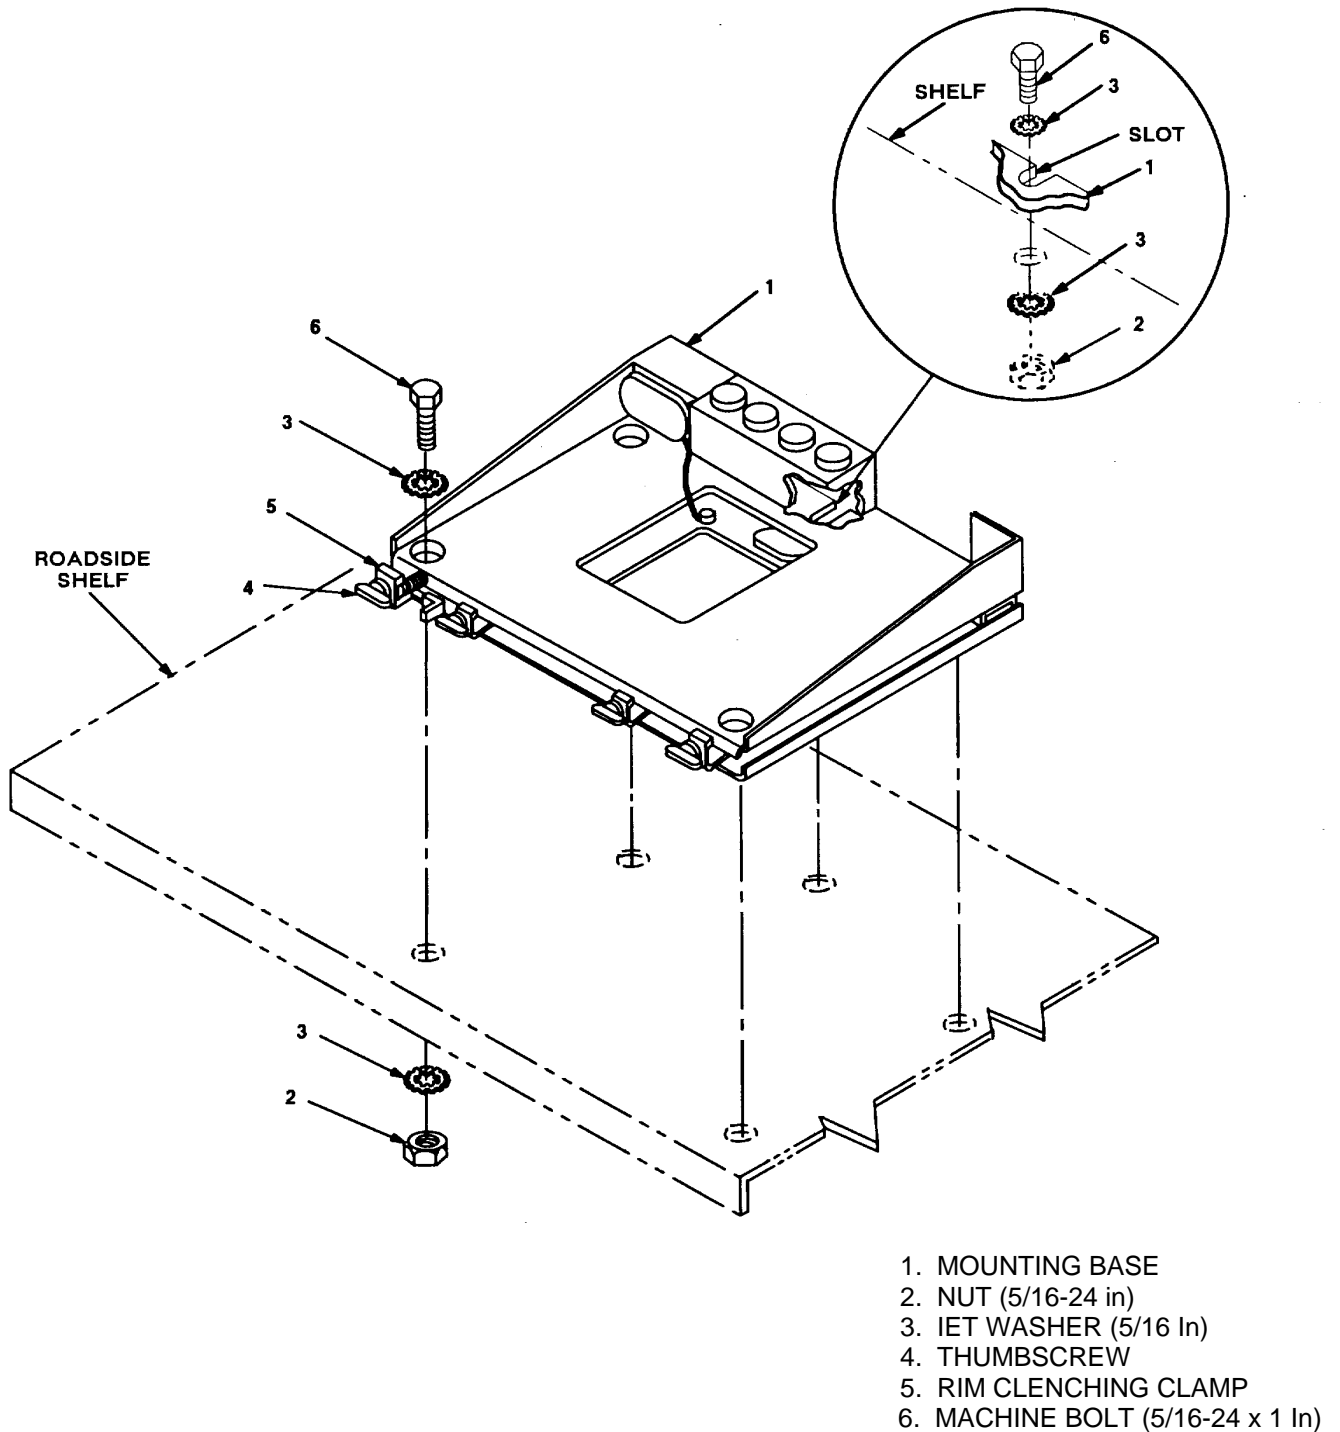

Figure 5-5. Mounting Base Installation: Roadside Shelf 13
**5.3 Installation of Mounting Base, Electrical Equipment MT-63521VRC (mounting base).** Remove and retain attaching bag of 5/16 in mounting hardware for installation. To insure good electrical grounding, any rust, corrosion or paint around mounting holes in radio shelf should be removed before installing the mounting base. See figure 5-5 and perform the following steps.
a. Mounting base (1).	Place on roadside shelf. See figure 5-5.
b. Two outer thumbscrews (4).	Turn ccw until both sets of threads have cleared center of holes.
c. Mounting base (1).	Aline four holes and rear slot with matching hole pattern in shelf.
d. Five machine bolts (6), ten IET washers (3) and five nuts (2).	Install and secure to mounting base (1) and shelf.	Tools: 1/2 in socket and 1/2 in open/box wrench.
e. Two outer thumbscrews (4).	Tighen and secure to rim clenching clamps (5) and mounting base (1).